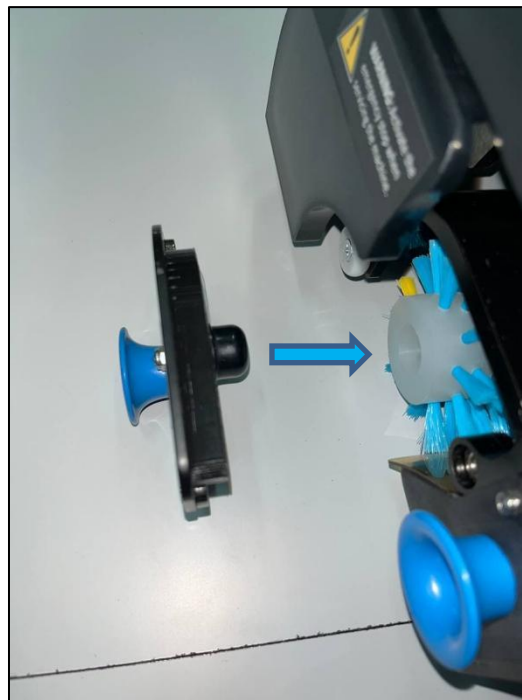

Fig. 4
4. Place the brush cover back on the robot (Fig. 4). The protrusion on the cover should fit into the slot on the brush. Ensure cover is flush to housing.